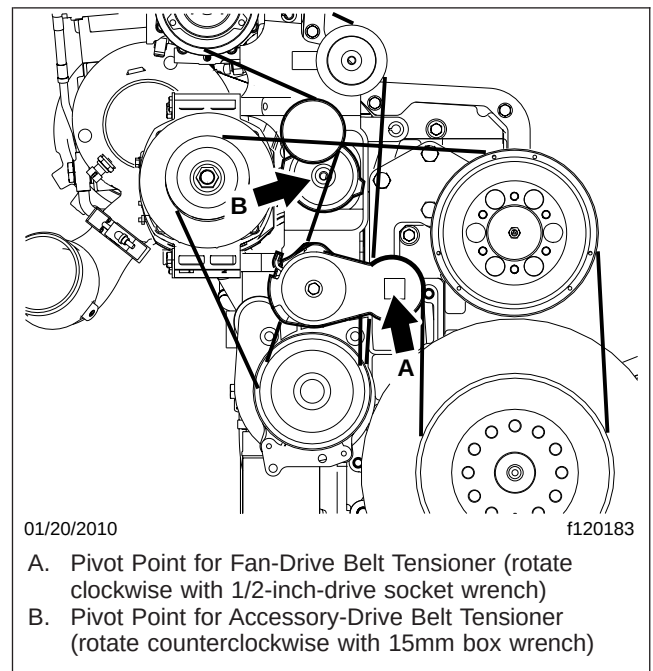

Fig. 2, Releasing the Tensioners
4. Locate the accessory drive-belt-tensioner assembly on the left (passenger) side of the engine, as you are facing it. Insert a 1/2-inch-drive ratchet or 1/2-inch breaker bar into the pivot point on the small end of the tensioner. See **Fig. 2**. Pull up on the wrench, turning the tensioner clockwise, until you feel resistance.
6. Insert a 15-mm box wrench onto the pivot bolt of the AC-belt tensioner. Smoothly rotate it downward, turning the tensioner counterclockwise until you feel resistance. See **Fig. 2**.